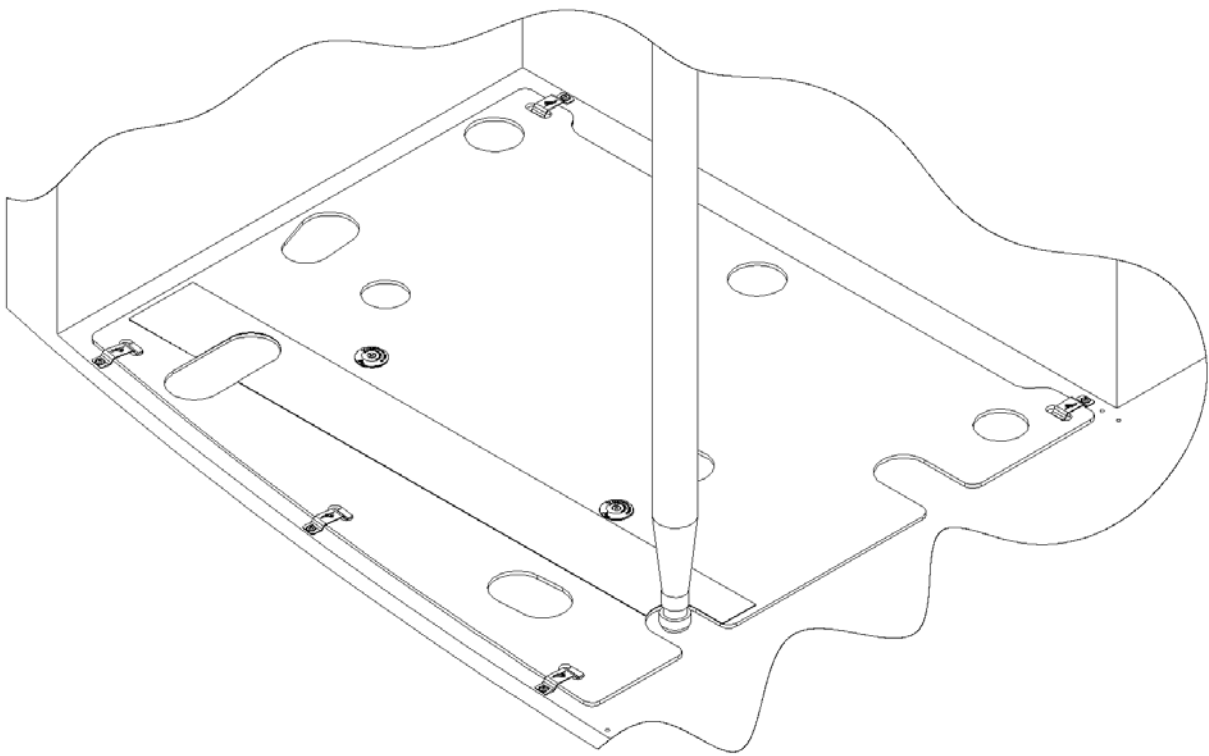

Figure 6
6. Placement of the Grip Tape is optional. It's location is approximate and can be placed to suite the individual operators needs. See Figure 6.